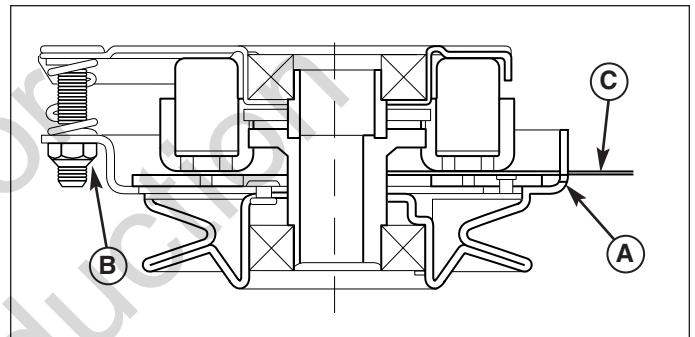

Figure 35. Adjust PTO Clutch
3. Insert a .012"-.015" (2,5-4 mm) feeler gauge (C) through each window, positioning the gauge between the rotor face and the armature face as shown in Figure 35.